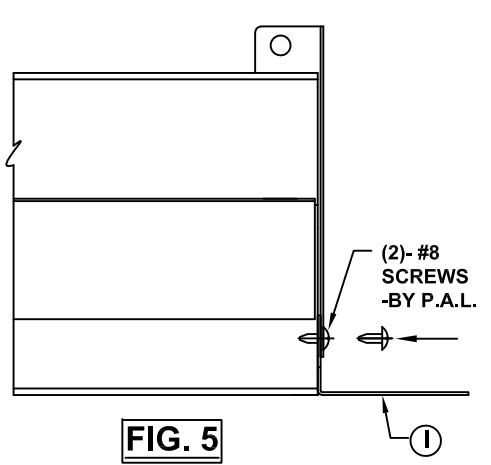

FIG. 5
REMOVE LENS (A) FROM ALL FIXTURES AND ATTACH END TRIM (I) TO FIRST AND LAST (END OF ROW) FIXTURES AS SHOWN IN (FIG. 5). PLACE TRIM'S VERTICAL FLANGE BETWEEN INSIDE OF END PLATE AND EXTRUSION. SLIDE INTO PLACE AND USING THE (2) SCREWS SUPPLIED WITH ASSEMBLY ATTACH TRIM TO FIXTURE THROUGH HOLES IN ENDPLATE. INSTALL FIRST (END OF ROW) FIXTURE IN ROW OBSERVING MOUNTING INSTRUCTIONS FROM BACK PAGE. DO NOT MAKE FINAL ATTACHMENT OF SAFETY BRACKETS (C) TO GRID AT THIS POINT.